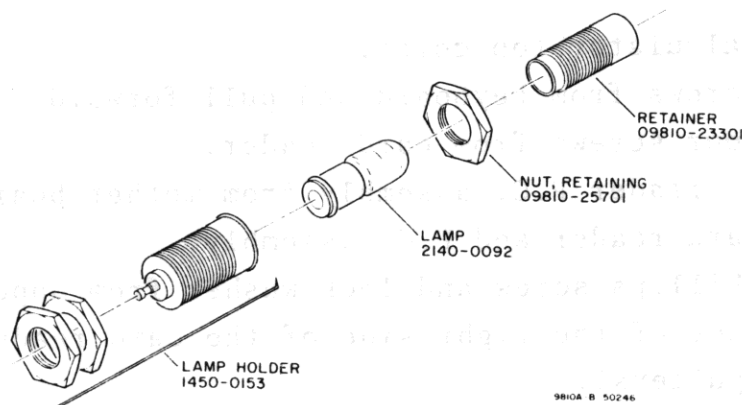

Figure 6-12.
3. Loosen brass nut on the front (Lamp) end of the assembly with a 3/16" wrench. (See Figure 6-12.)